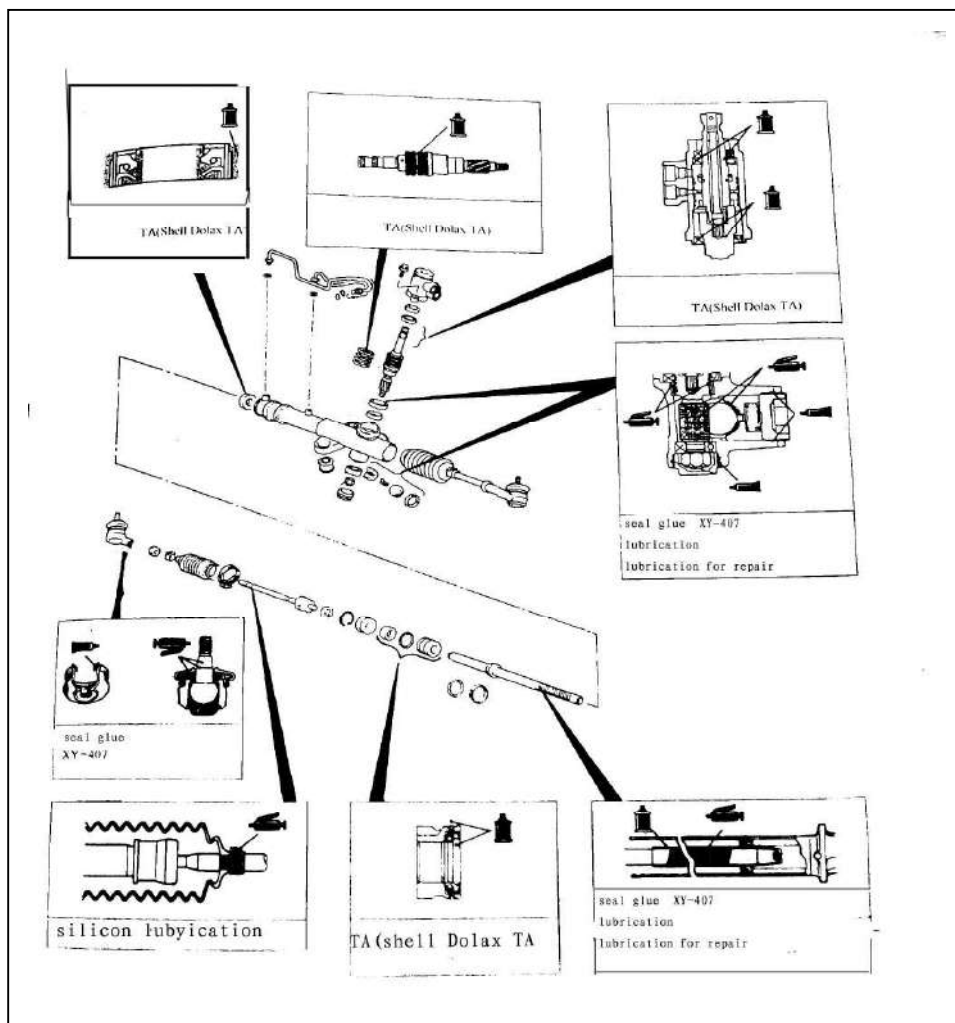

Fig 17-22
2. Lubrication and sealing points(See fig 17-22)